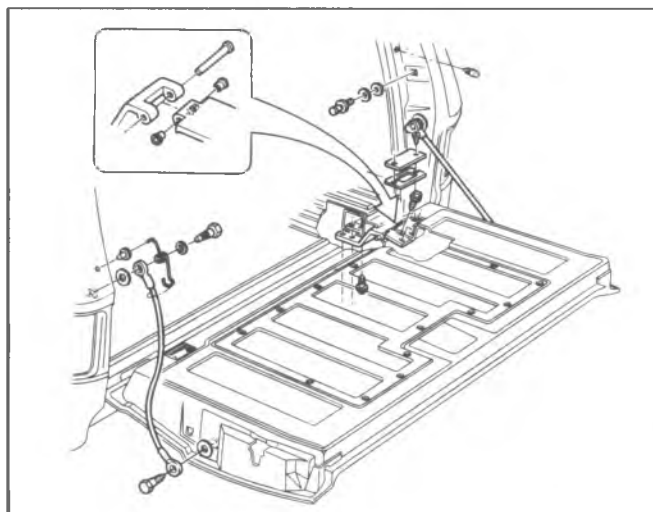

Fig. 50—Endgate, Hinges and Supports—(06 Only)
1. Lower endgate, and remove hinge access covers. See figure 50.
1. Remove bolts from each of the hinge assemblies on the underside of the body. See figure 50.